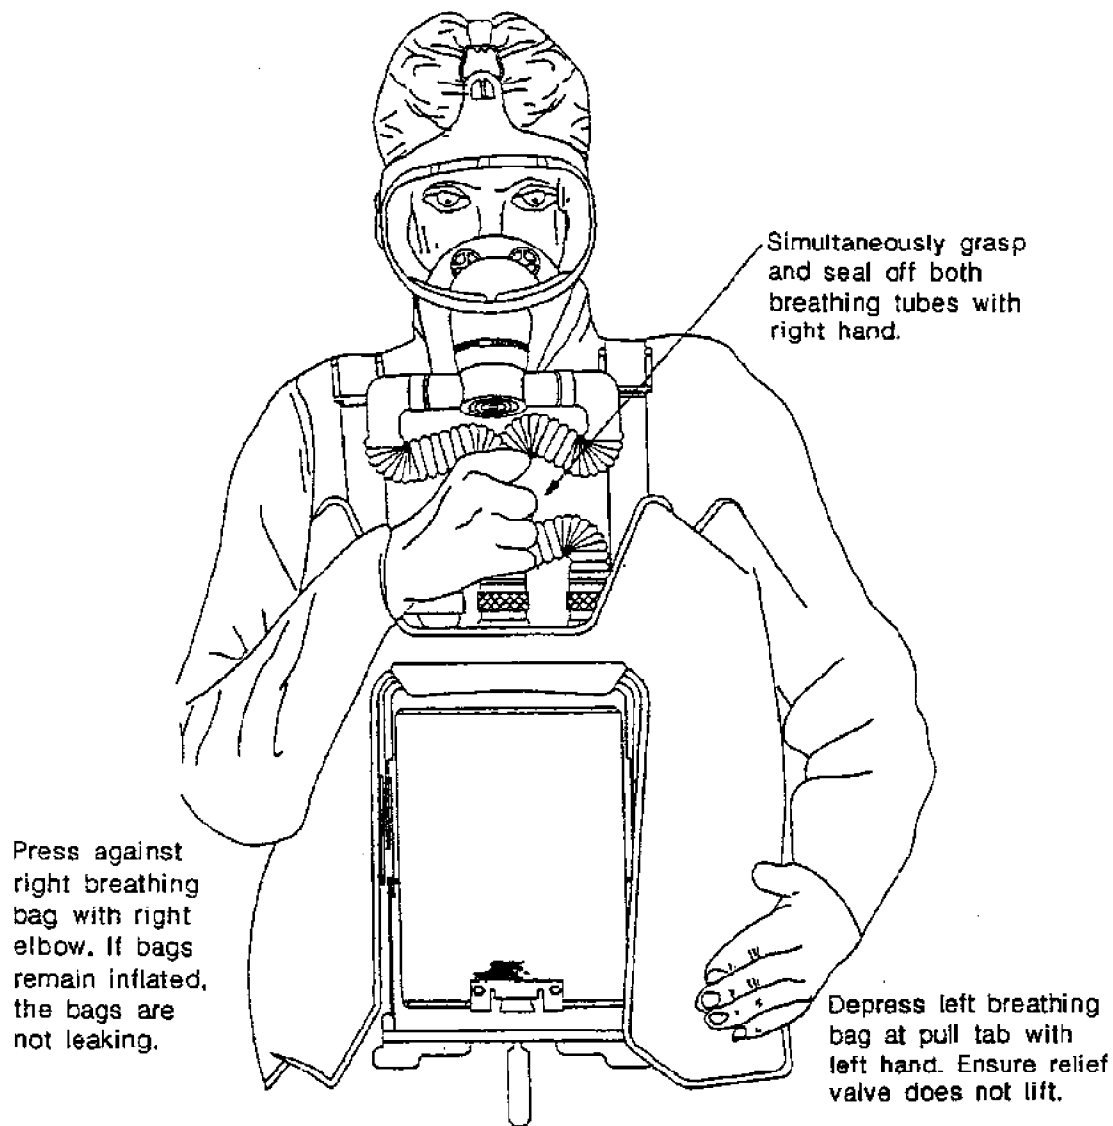

Figure 077-3-4. Testing Oxygen Breathing Apparatus for Leaks
4. Test breathing bag tightness. Depress the left breathing bag at the pull tab with the left hand, as shown in Figure 077-3-4. Simultaneously grasp and seal off both breathing tubes with the right hand while pressing against the right breathing bag with the right elbow, as shown in Figure 077-3-4. Compress the left bag at the pull tab so the relief valve does not lift during this test. This procedure tests the canister, tube connectors, and breathing bags for tightness. If the bags do not remain inflated during the test, determine the cause of the leak and correct prior to use.